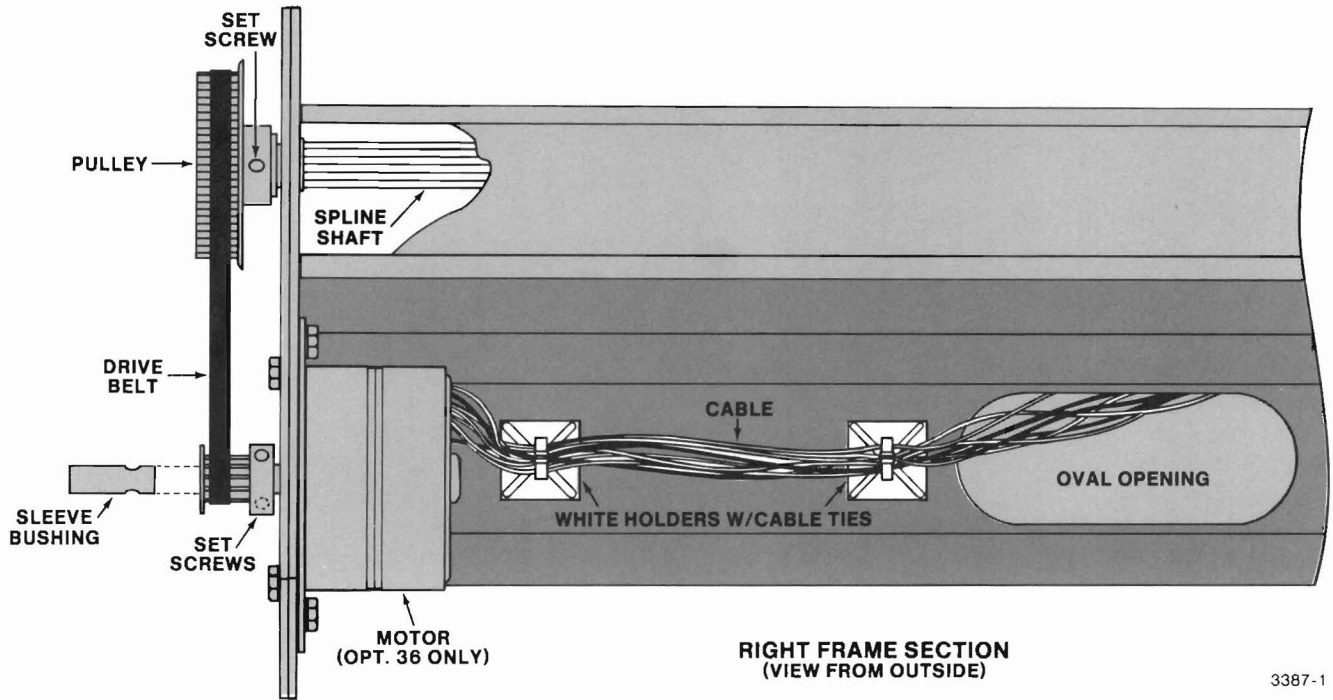

Figure A-7. Paper Drive Motor Mounting Details.
2. Install the stepper motor on the right front pulley support. The motor mounts on the rear surface of the support with the shaft facing forward. Secure with two screws (211-0012-00) and two nuts (210-0586-00). The nuts should be on the outside of the panel. Refer to Figure A-7.
3. Insert the sleeve bushing (358-0606-00) into the drive pulley (401-0404-00), aligning the holes for the set screws in the pulley. Tighten the set screws only enough to keep the bushing in place (refer to Figure A-7).
4. Attach the drive pulley (with bushing) to the motor shaft. Leave a small space (1" or so) between the pulley and corner bracket. Tighten the two set screws (refer to Figure A-7).